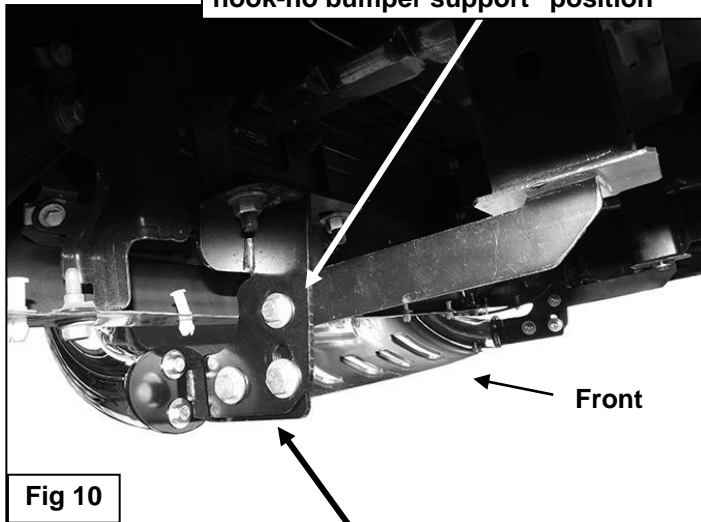

Fig 10
9. Reinstall the Bull Bar described in **Step 5, (Figure 10)**.
(Fig 4B) Driver side Support Bracket in "no tow hook-no bumper support" position as also pictured in Figure 10